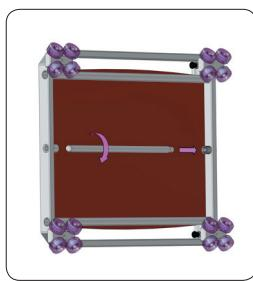

Fig.2
- > The push-bars are stored in the frame during transport. (Fig.2)